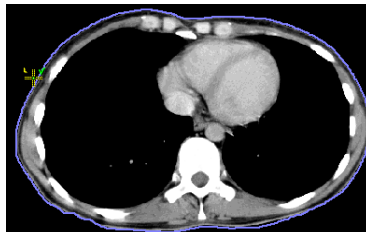

Figure 274 – Defining the left point of the bolus
- Define the leftmost point of the bolus by clicking the contour. The cursor marked as **L** will also be displayed with a green tick when it reaches the contour line of the currently selected ROI (see Figure 274).